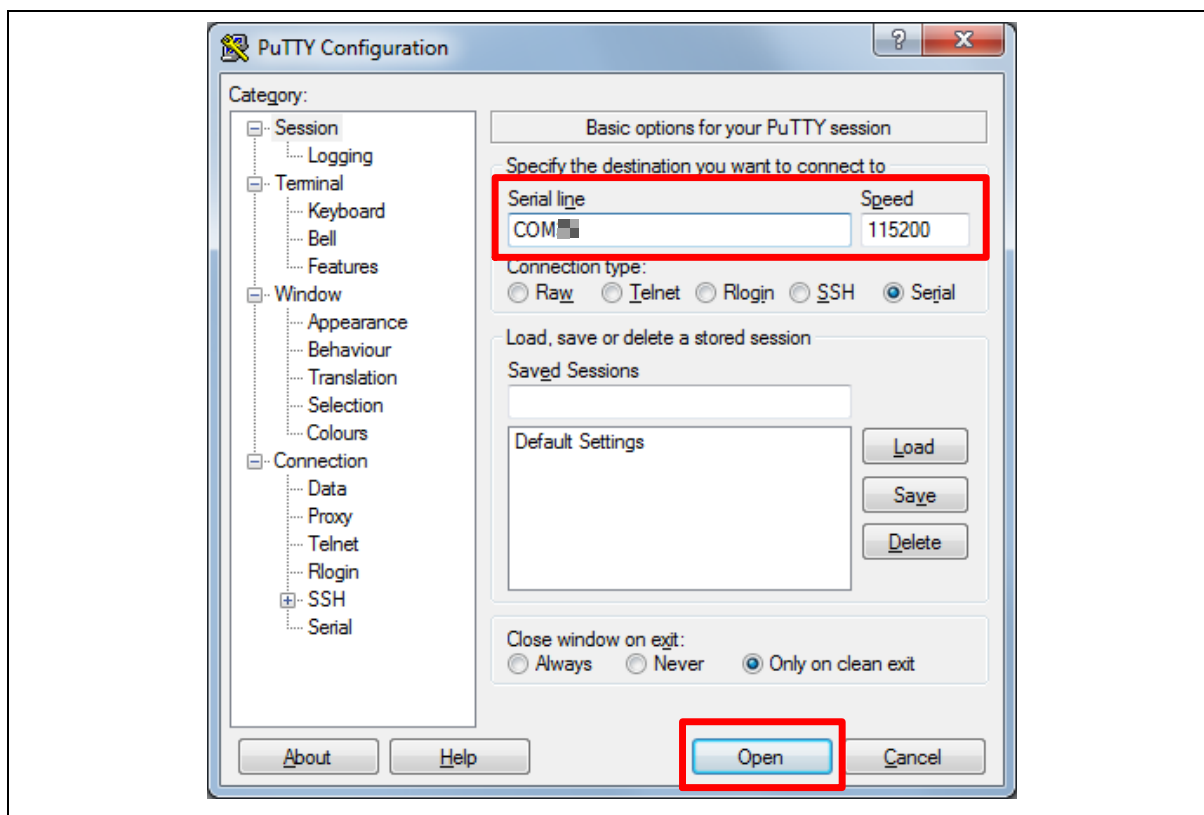

Figure 4.4-4 PuTTY Session Setting
- Open a serial port terminal, PuTTY for example, to print out debug message. Set the speed to 115200. Figure 4.4-4 presents the PuTTY session setting.